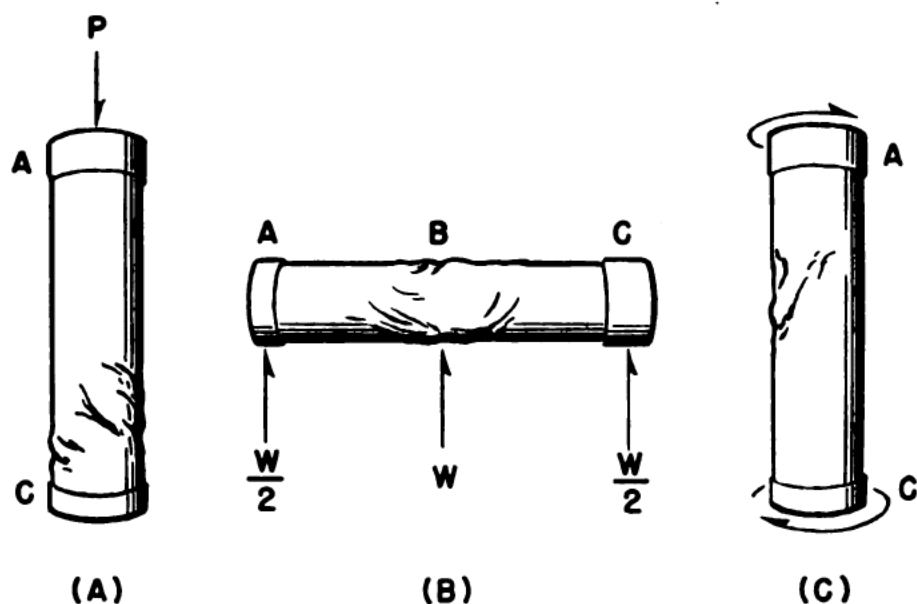

Figure 7.—It's got wrinkles.
If you should cut a HOLE in a monocoque tube made of paper like those in figure 7, you would decrease its strength. The amount of decrease would depend upon the amount of MATERIAL REMOVED and the SHAPE OF THE HOLE. You would have set up a weak point where loading stresses could spoil the tube's true shape.
Figure 7 shows what happens to the skin as a result of such loads.
Figure 7 (A) shows a paper monocoque tube carrying a **COMPRESSION** LOAD, (B), a **BENDING** load and (C), a **TORSION** load such as exists in the torque tube of an aileron or elevator.
Structures which perform the functions of blocks A, B, and C, in figure 7 are called BULKHEADS. BULKHEADS and REINFORCING RINGS are the chief means which designers use to get around wrinkling and hence local failures due to concentrated loads. These devices RECEIVE the CONCENTRATED LOADS and DISTRIBUTE THEM evenly into the thin walls of the structure.